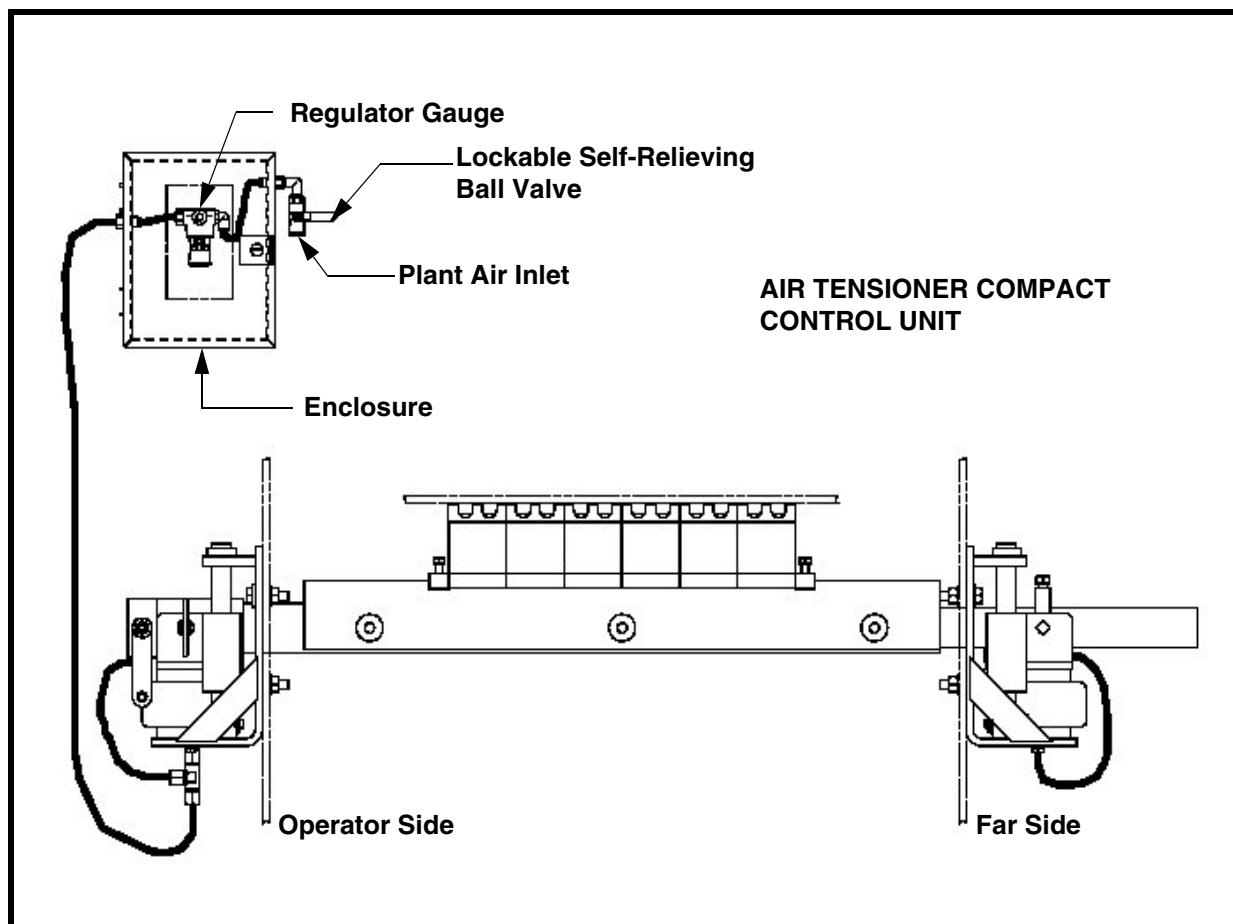

Figure 6. Air Tensioner Operation
9. Insert pin (A) through tensioner and mainframe.
10. Use tensioner as guide and drill 9/16 in. hole (B) through mainframe on far side.
15. For the air-tensioned model only, connect the air tube to the fittings in the far side airbag on the underside of the mount bracket. See Figure 6.
The air tensioner utilizes an inflatable air bag on each cleaner mount to provide the force to adjust the blades against the belt. Cleaner adjustments and correct force are automatically applied by simple air pressure control. See Figure 6.